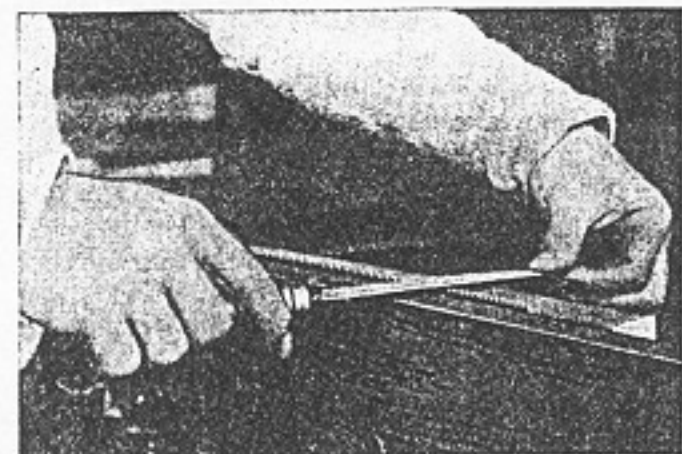

Fig. 8. Filing a ripsaw held between boards in a bench vise.
11. Filing is begun from the point of the saw, starting the file in the gullet to the left of the first tooth bent toward the worker. The file is held level and at right angles to the saw blade, with its sides touching the front of one tooth and the back of the one adjoining at the same time. Two or three light strokes are taken straight across the tooth. This process is continued in every other gullet until the handle has been reached (Fig. 8).